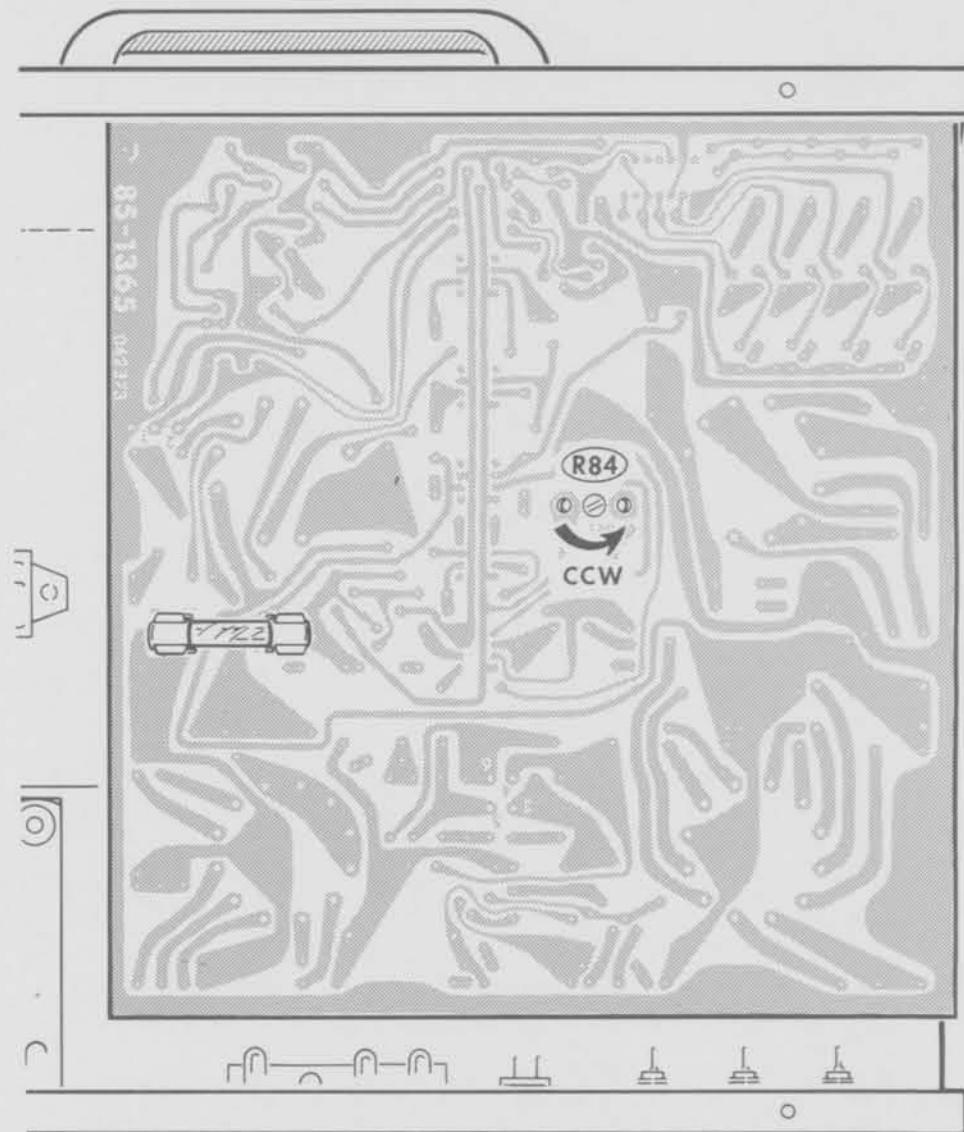

Figure 1-7
- ( ) Refer to Figure 1-7 (fold-out from Page 52) and turn circuit board control R84 fully counterclockwise.